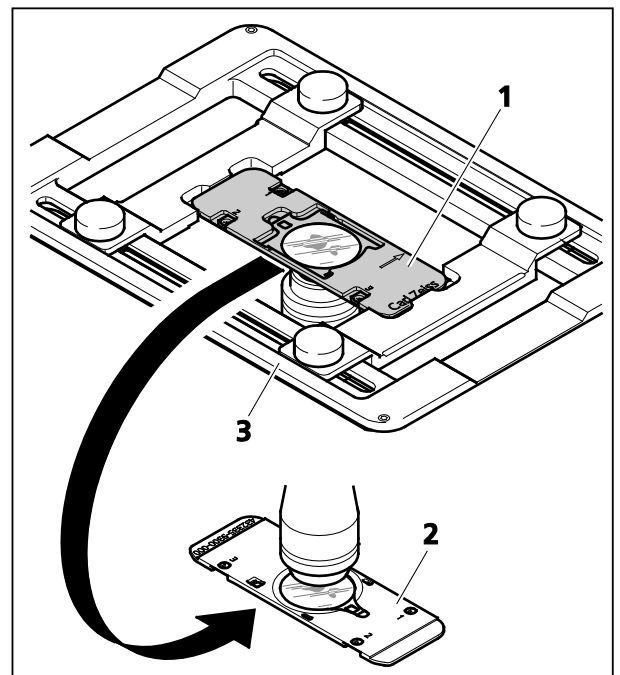

Fig. 177 Inserting a sample holder
- Insert the sample holder into the mounting frame (Fig. 177/3) of the microscope stage in the following way:
- for inverted stands, see Fig. 177/1
- for upright stands, see Fig. 177/2